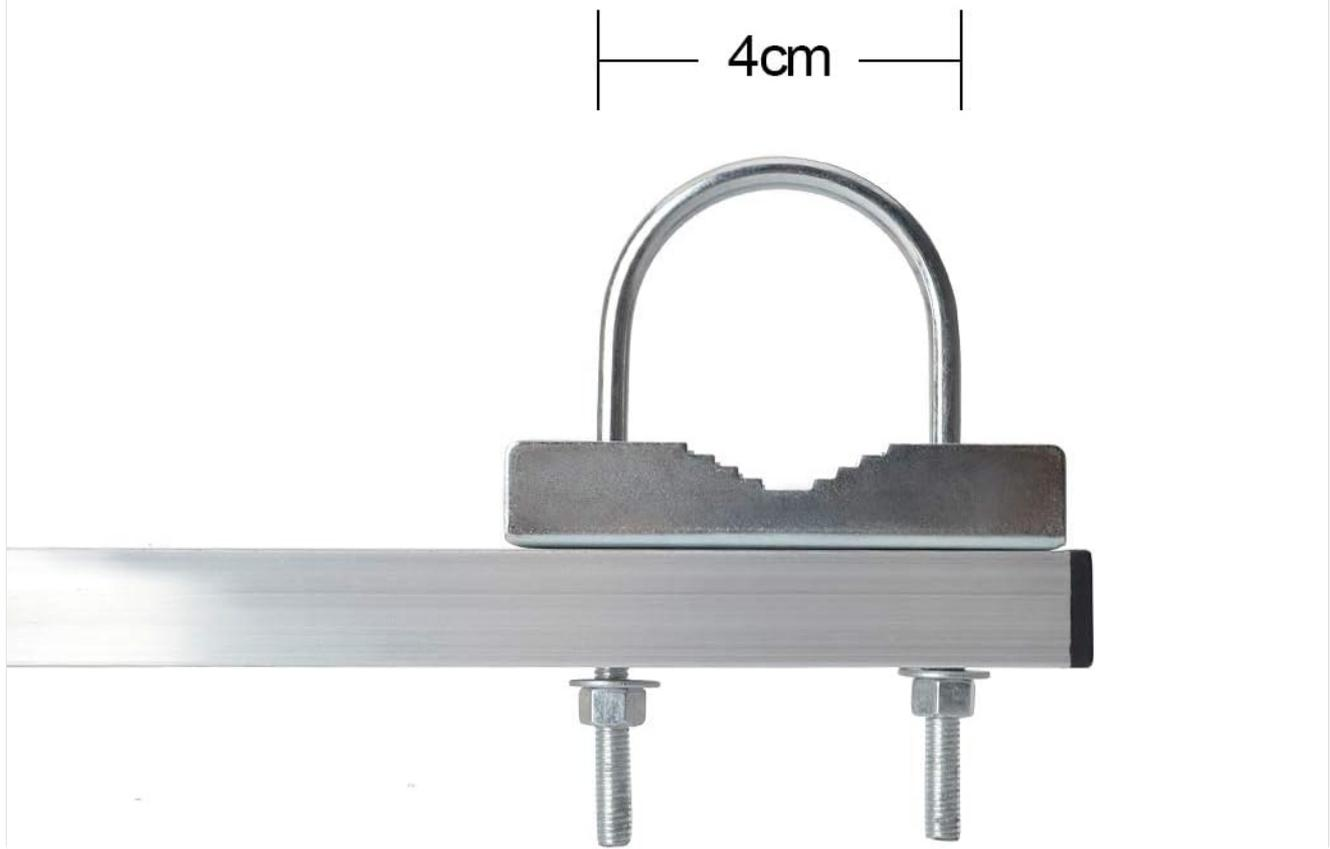

Figure 4.2: U-Bracket Dimensions. This image highlights the U-bracket and indicates it is suitable for mounting on columns with a diameter of approximately 4cm.
- The U-bracket is suitable for columns with a diameter of approximately 4cm (see Figure 4.2).